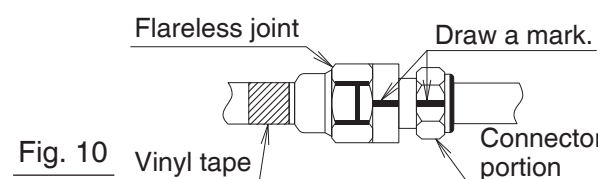

Fig. 10
- Mark the flareless joint and the connector portion. (See Fig. 10)